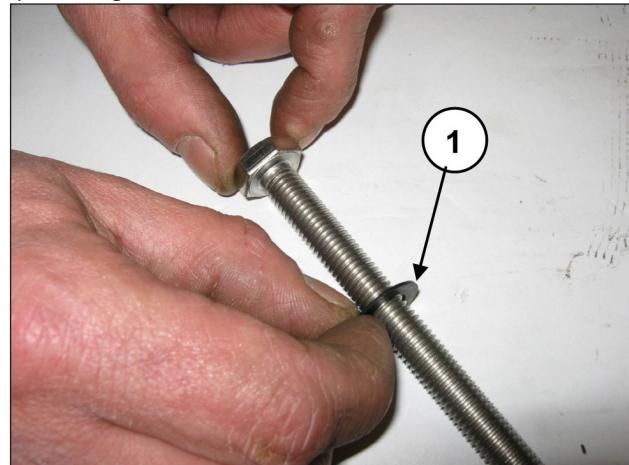

Fig. 157
Insert the Ø10x18x0.9 washer in the piston fixing screw (pos. ①, Fig. 157).